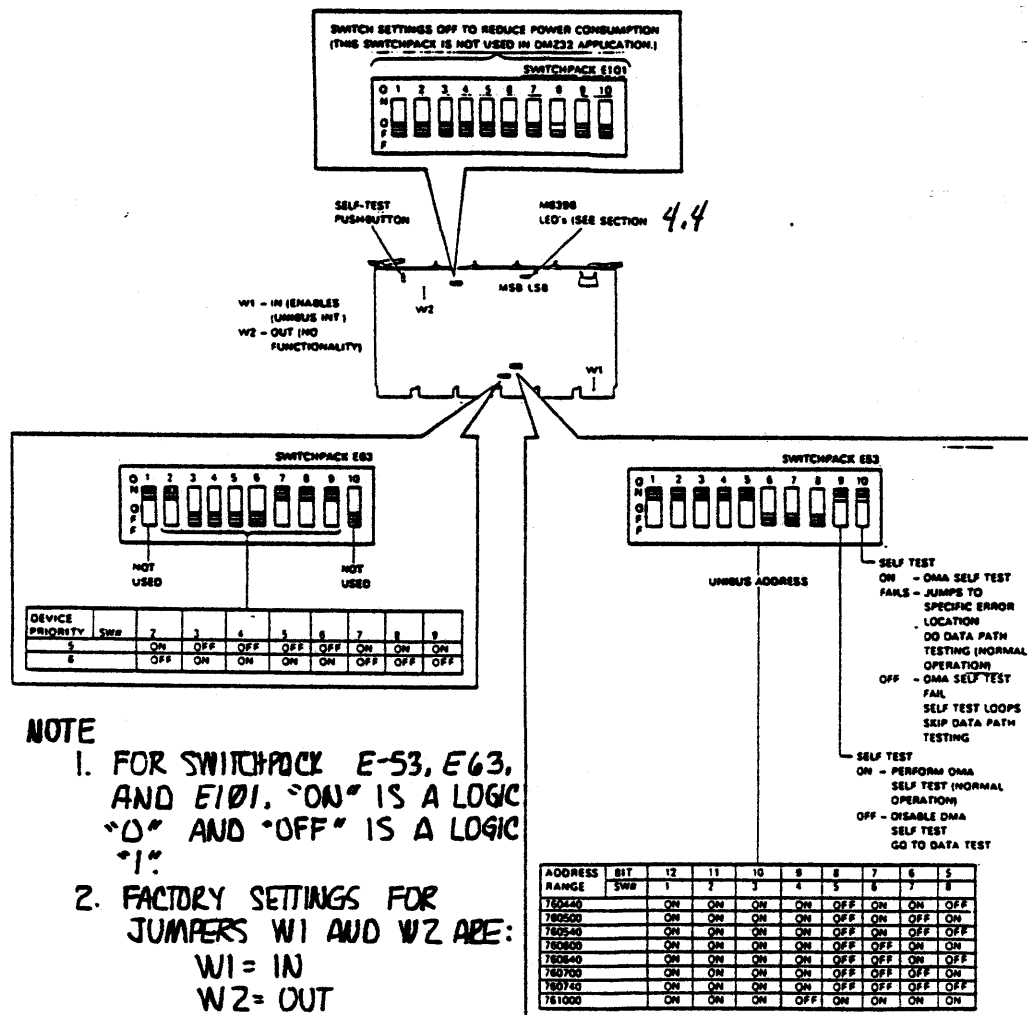

Figure 2-1 DMZ32 UNIBUS Interface Module (M8398)
To install the M8398, perform the following steps in the sequence given, ensuring that no steps are skipped or overlooked. Figure 2-1 shows the location of switch packs.
4. Set switch 10 on switch pack E-53 to the ON position. (Refer to Figure 2-1 for switch settings.)